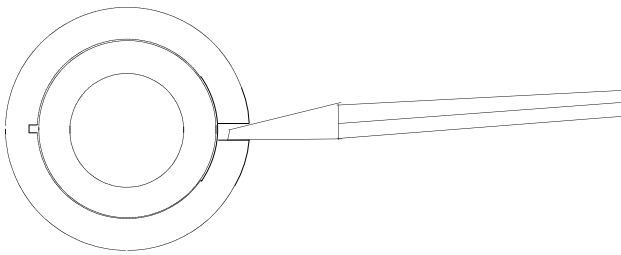

Figure 11
- 4.2.2.4 Wear spacers are slotted to allow for in-place removal. Using a narrow chisel wedged into the slot in the spacer, as shown in **Figure 11**, pry the wear spacer until it fractures and is clear to be removed from the stud. Repeat for the remaining spacers in the set that is to be removed (one spacer from each stud location).